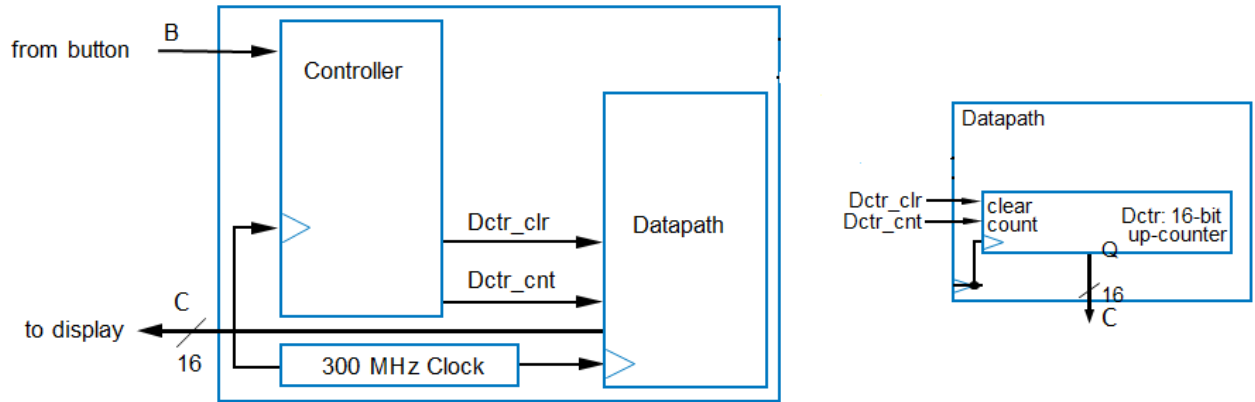

Figure 3 – Controller block diagram and datapath
2. Figure 3 shows the Separation the FSMD into an FSM+D, this means it shows the controller design and datapath connections.